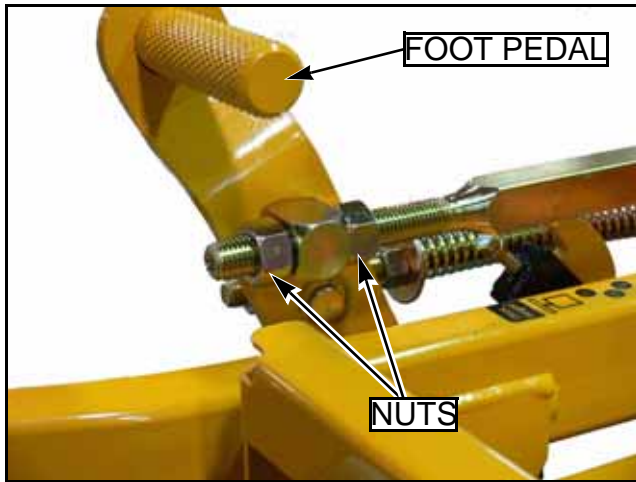

FIG. 65
7. Loosen the two nuts on the front of height indicator so that the foot pedal is free "FIG. 65".
12. While keeping the chain tight, tighten the nuts against the deck lift block on the height indicator rod "FIG. 65".